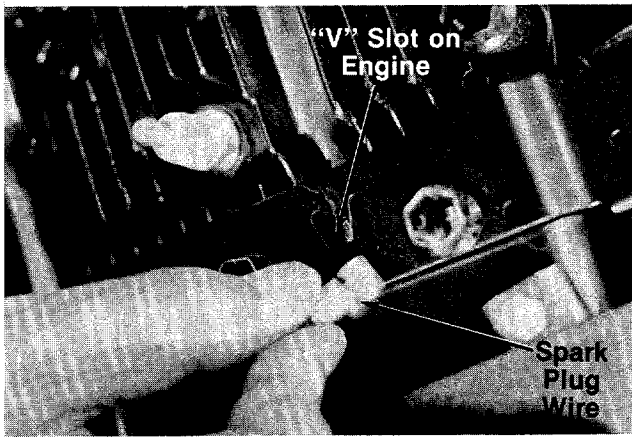

FIGURE 10.
3. Disconnect the spark plug wire from spark plug to prevent accidental starting. Secure end of spark plug wire in the "V" slot on the engine. See figure 10. With the clutch lever in neutral position, pull starter cord several times. **The tines should not turn.** If they do, remove the hairpin cotter and remove the control rod from the clutch lever. Thread the control rod in or out of the ferrule as necessary. Replace and check again for correct adjustment.